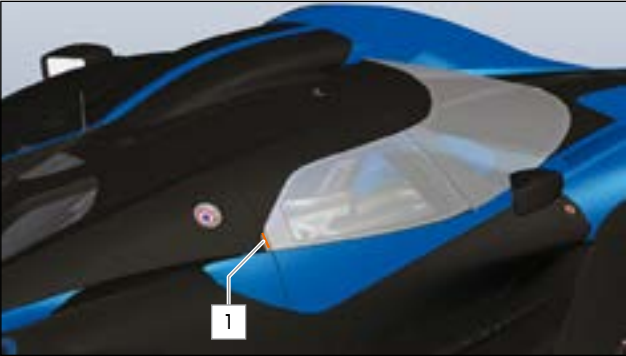

FIG.41 RECESSED HANDLE AT THE BACK OF THE DOOR
There is a recessed handle (» Fig.41) at the rear, trailing edge of each door exterior. Pull the handle to open the door.
- Pull handle 1 (» Fig.41) to unlatch the door.
- Securely close the door by pushing on the door itself (» Fig.41) Do not slam the door.